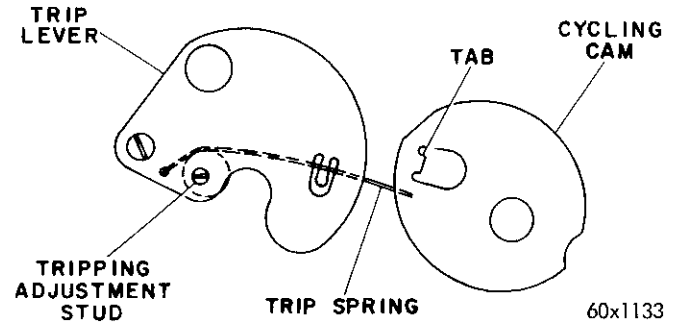

Fig. 43—Automatic Tripping Adjustment
- (c) Slide bracket or record-reject electromagnet may not be properly adjusted (Fig. 43).
- (d) Inspect rubber roller for presence of grease or oil (Fig. 43).
- (a) Cycling cam may be set too close to roller (Fig. 43).
- (c) Inspect rubber roller for presence of grease or oil (Fig. 43).
a. Tripping Adjustments (Figs. 43 and 44)
(1) Manual tripping occurs when the "START-REJECT" switch is pushed to the "REJECT" position. This permits record reject electromagnet to attract the armature located on the cycling cam; adjust as follows:
- a. Loosen locking screws (A) located on slide bracket (Fig. 43).
- c. Position the bracket so that the cut-away section of the cycling cam clears the rubber roller in accordance with dimensions shown in Fig. 43.
- f. Loosen screw (B) and position corner of the electromagnet to provide minimum clearance without touching corner of armature on cam.